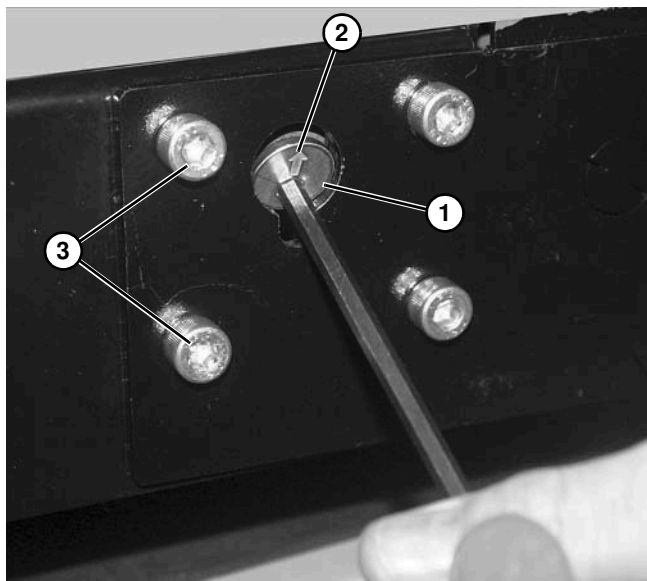

Figure 116
3. Remove tracking cam (**Figure 116, item 1**) by rotating so that the arrow (**Figure 116, item 2**) is facing directly up, and remove from conveyor.
4. Remove two screws (**Figure 116, item 3**).